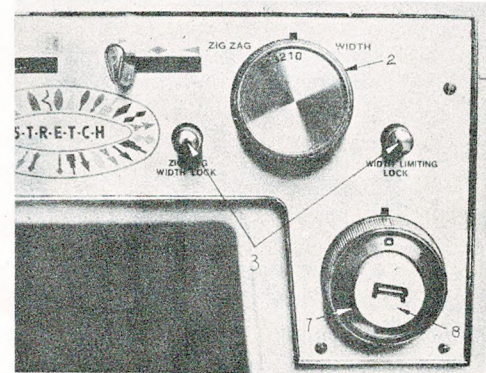

Fig. 12
Be sure to set the stitch width at "0." Adjust locking knobs (3) to hold zigzag width control dial (2) in 0 position. (Fig. 12).
The length of the stitch is regulated by knob 7 stitch length control shown stitch in Fig. 12. Near "0" is the shortest stitch and 5 is the longest.
When you wish to sew in reverse to tie the thread at the beginning or the end of a seam, press in the reverse push button(8)Fig. 12 as far as it will go. The machine will sew backward as long as the button is held in. Only 4 or 5 stitches are needed to tie a seam securely.
To stitch continuously at one width of zigzag stitching set lock 3 (Fig. 12) to hold zigzag width control dial at width chosen. Should you wish to move freely between any two widths, (in doing free hand embroidery), move zigzag width control dial to the right and set left hand locking stopper at desired width.